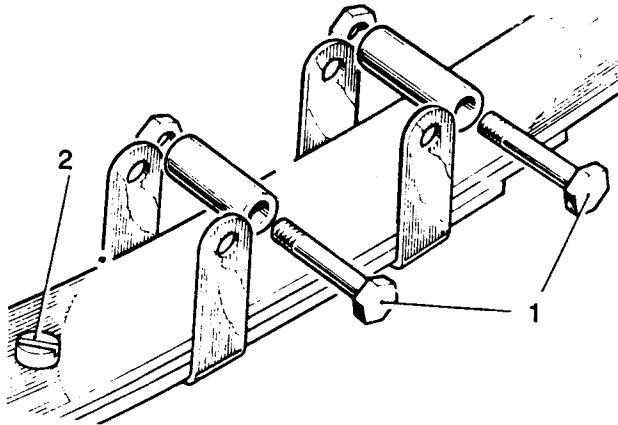

Fig 15.1
- (2) Refer to Fig 15.1. Remove the fixings (1) from the leaf clips, which may be bolts and nuts and/or long screws threaded into the leaf clips.
- (3) Remove the centre bolt (2) and nut to release the spring leaves.